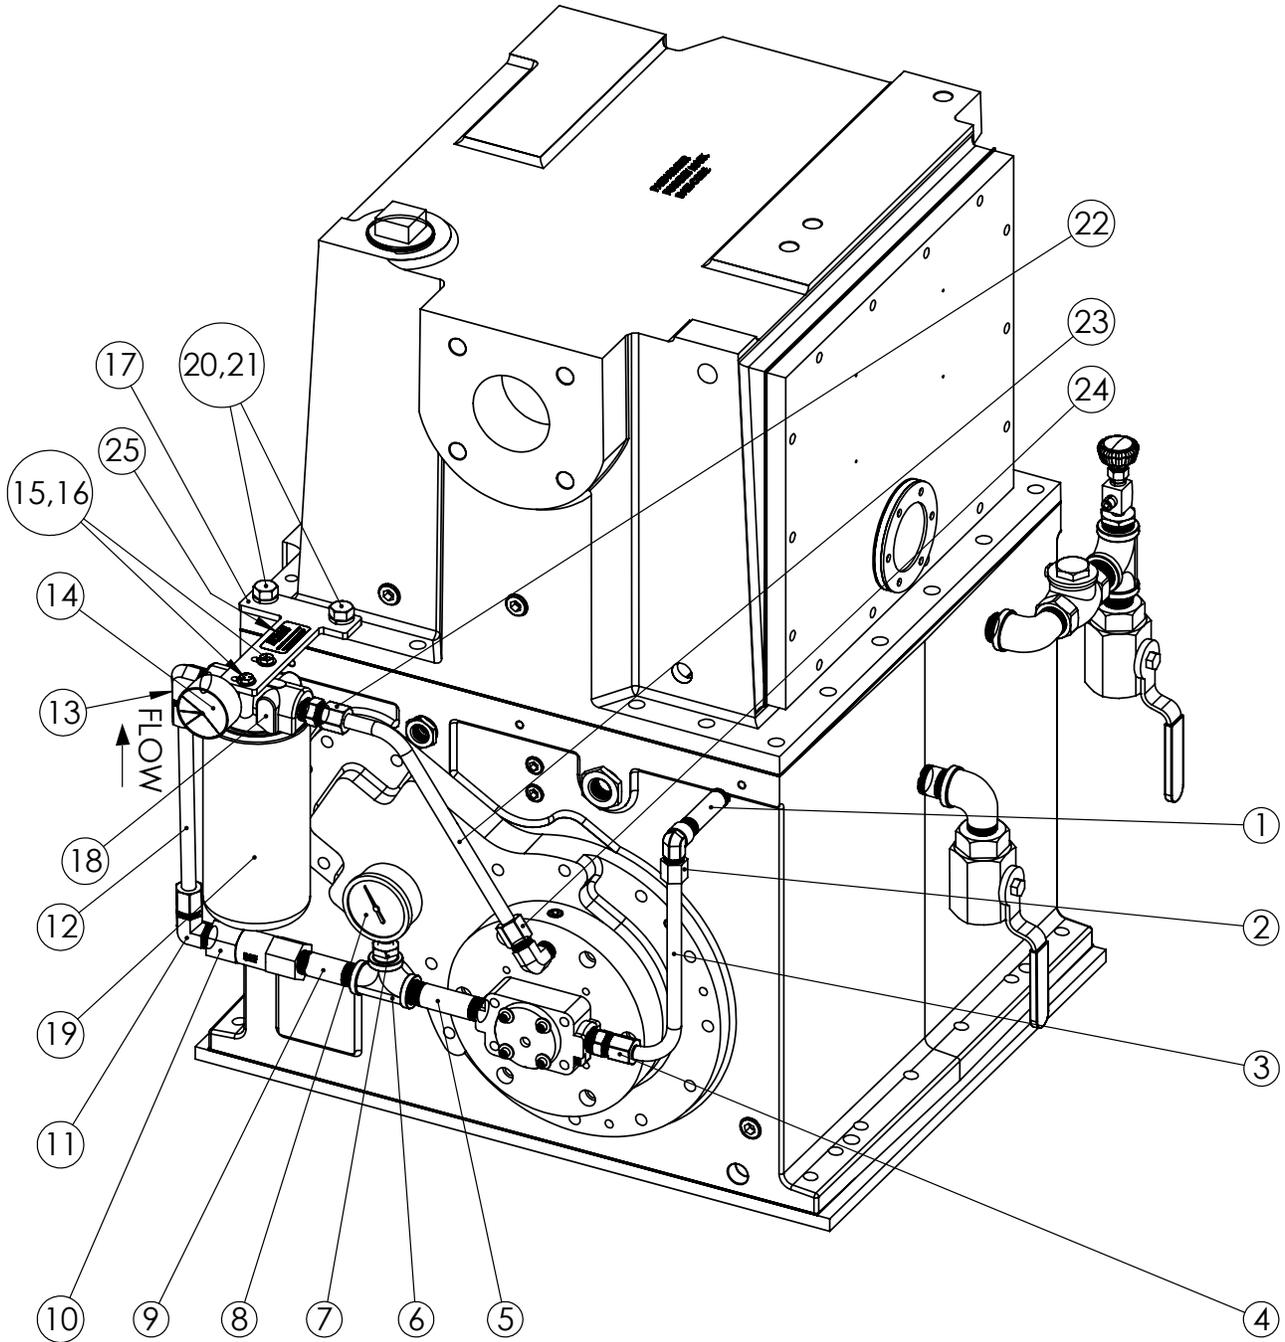

Figure 2-2 – KT-300 Filter Kit Drawing
4. Remove the two bolts in the separator housing where the bracket will be mounted (refer to FIGURE 2-2). These bolts will not be reused.
5. Loosely attach filter housing/bracket assembly using bolts and washers (#20 & #21 – FIGURE 2-2).
6. Install kit plumbing as shown in FIGURE 2-2 starting with #1 using the Loctite 567 on all NPT parts. Tighten NPT fittings, but leave tube fittings loose until assembled. Tubes may be shortened/cut using a standard tube cutter. Ensure check valve is orientated correctly with flow.
2. When starting KT Pump the green/red gage (#14 – FIGURE 2-2) needle may be in the red until the oil is above 140°F, this is normal. If gage needle is in the red when temperature is above 140°F, replace filter.